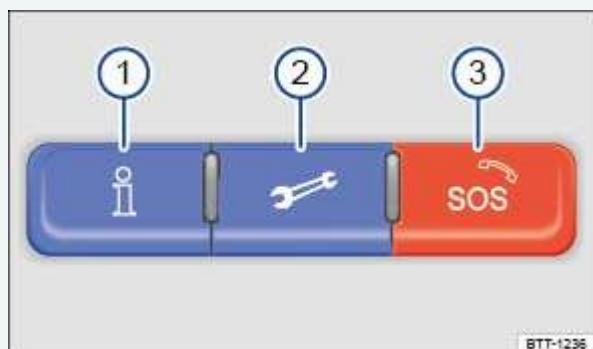
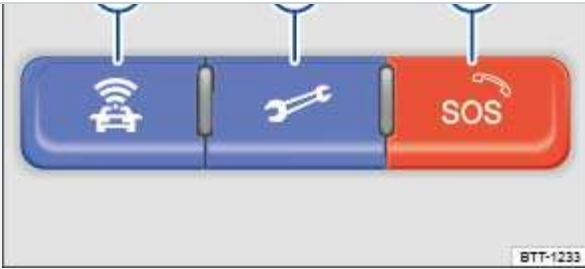

Fig. 21 In the roof console: 3-button module to access VW Car-Net service operators (Version 1).
Fig. 22 In the roof console: 3-button module to access VW Car-Net service operators (Version 2).
You can access VW Car-Net Security & Service via your VW Car-Net iPhone® or Android® app (text and data rates apply) and the VW Car-Net Security & Service website (<http://www.vw.com/carnet>). If you have a question or would like to subscribe, please either press the ⇒ Fig. 21 or ⇒ Fig. 22 button in your vehicle or contact the VW Car-Net Response Center at 1-877-820-2290. For more information or to log on to your VW Car-Net Security & Service account, visit <http://www.vw.com/carnet>.
The Manual Emergency Call service and all other VW Car-Net Security & Service features require a trial or paid subscription. To begin your trial or paid subscription, authentication and activation are required. For more information, please visit the website (<http://www.vw.com/carnet>), press the ⇒ Fig. 21① or ⇒ Fig. 22① button in the 3-button module in your vehicle or contact the VW Car-Net Response Center at 1-877-820-2290.
⇒ Fig. 21 or ⇒ Fig. 22